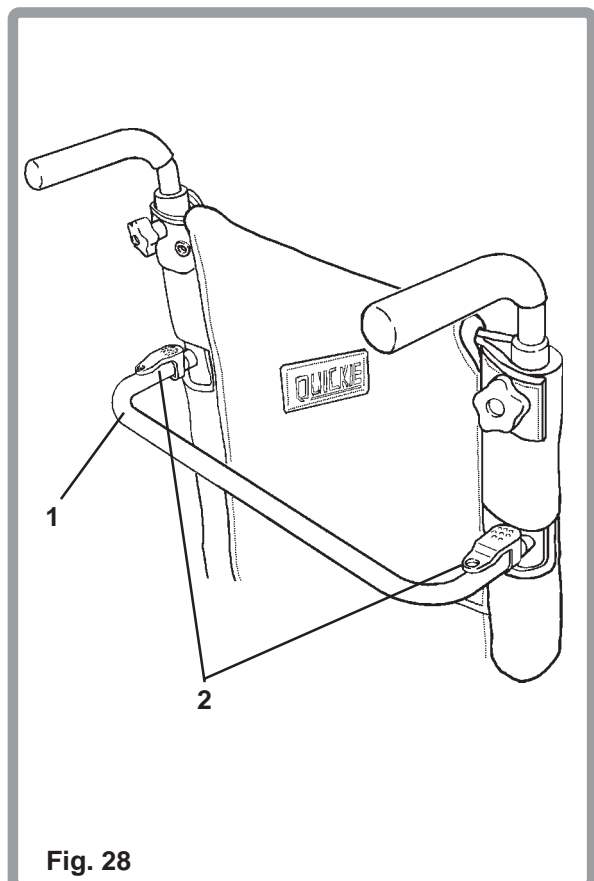

Fig. 28
To provide these chairs with additional rigidity a stabiliser bar (1) is also supplied (Fig. 28). To remove the bar, prior to folding the chair, the levers (2) need to be depressed on both sides of the bar; whilst keeping the levers depressed the bar can be removed, by pulling it backwards.